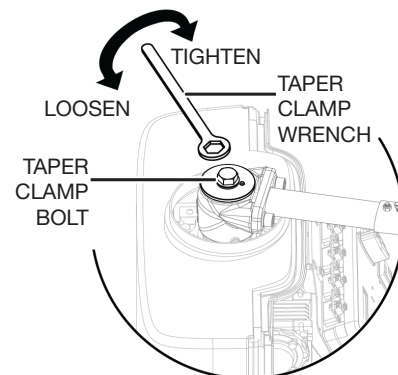

Figure 20. Loosen the Taper Clamp
1. Loosen the taper clamp bolt using the taper bolt wrench to allow the gate and arm assembly to rotate freely (Figure 20).